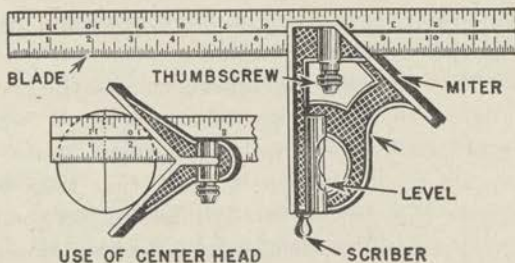

FIGURE 13.—Combination square.
d. *Combination square* (fig. 13).—Can be used for the same purposes as the try square, but the head slides along the blade, where
it is clamped in any position by a thumbscrew; hence it can be used to test the depths of mortises and the like. Combined with the square is a level and a 45° bevel, or miter. The blade can be pulled out and used as a rule. A scribe, for scratching lines, is held in a split brass bushing in the head. The insert in figure 13 shows the blade inserted in a center head to locate centers on round work. Scribe two diameters approximately at right angles to each other; the intersection is the center.